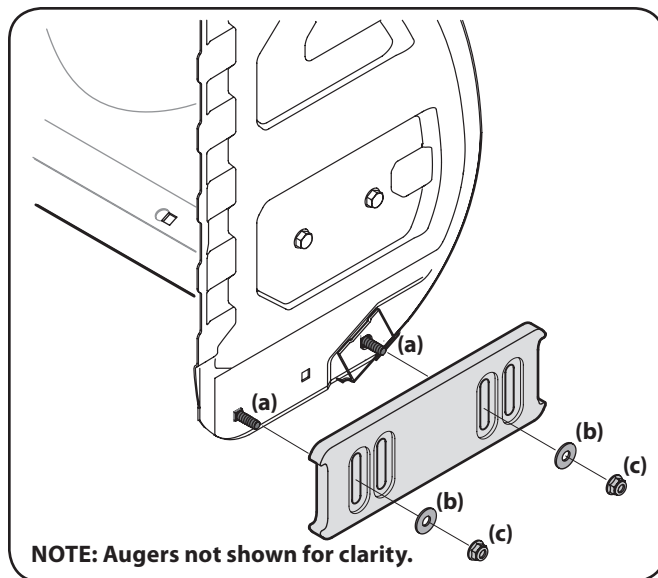

Figure 6-1
2. Rotate and reassemble skid shoes with the four carriage screws (a) and flat washers (b) (two on each side) and flange lock nuts (c). Refer to Figure 6-1.